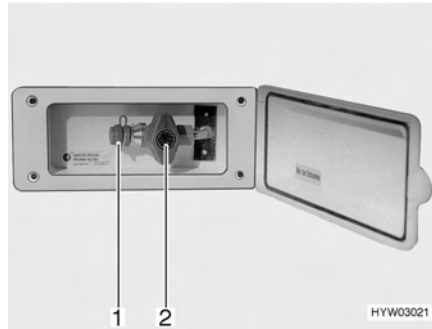

Fig. 51 External gas connection, gas isolator tap closed
The external gas connection (Fig. 51) is located at the rear or to the left or right of the vehicle depending on the model.
- Connect the external gas device to the connection point (Fig. 51,1).
- Open the gas isolator tap (Fig. 51,2).